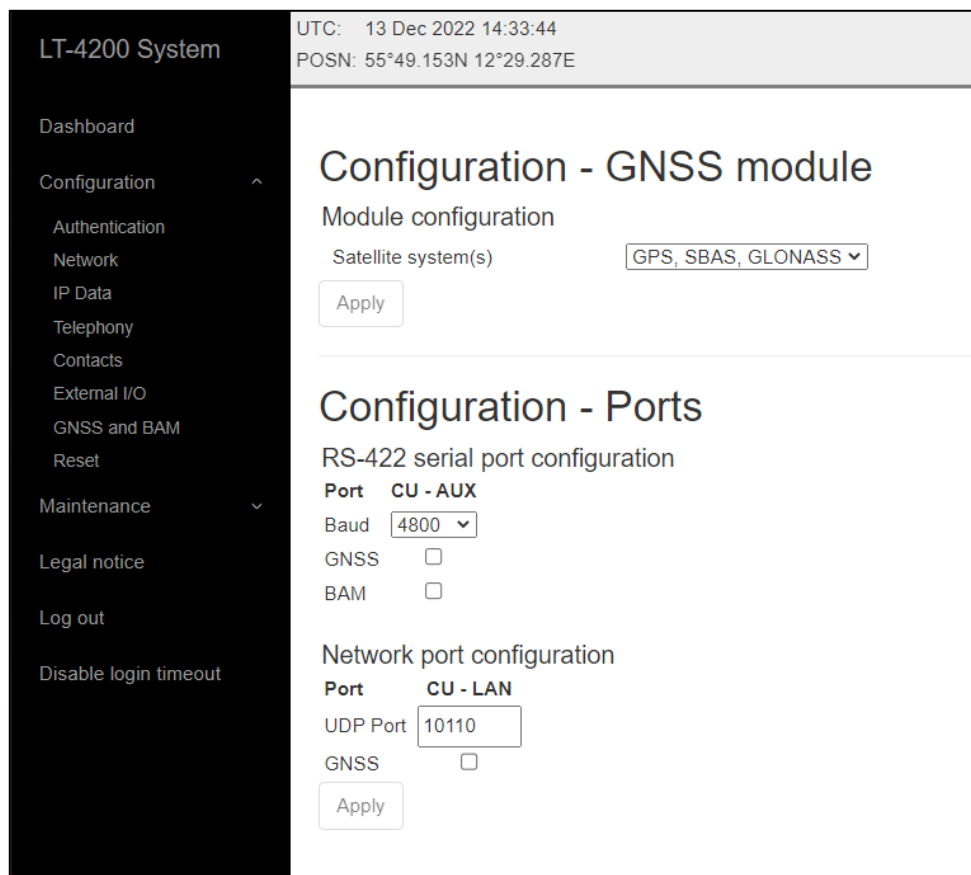

Figure 115: Web server – GNSS and NMEA output
The LT-4200 system has a built-in GNSS receiver located in the LT-4230 Antenna Unit. The GNSS receiver is used for time, date and position of the LT-4200 system, for example by the tracking application. The GNSS receiver can be configured to operate on different satellite systems (e.g. GPS only) - this can be managed under the GNSS module, as illustrated in Figure 115.
**NOTE:** The Port configuration illustrated above in Figure 115 for GNSS and BAM supports the following baud rates: 4800, 9600, and 38400. The port is bi-directional RS-422. Only BAM can receive data.